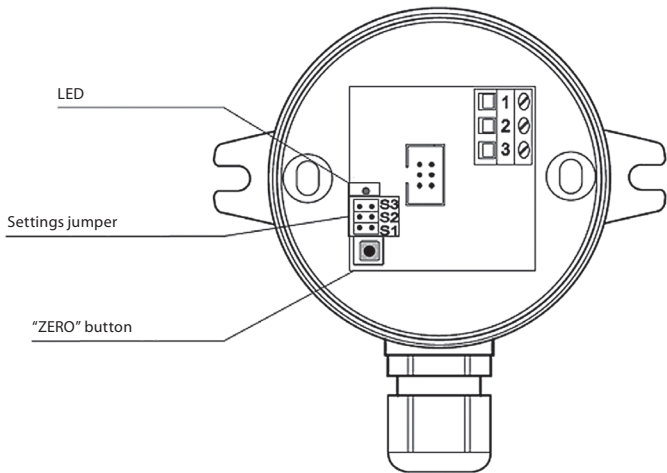

Fig. 4a. P2500 pressure sensor
5. When the operating unit air flow will reach nominal value (maximum air flow during operation of the unit), voltage (DC) between contacts No. 2 and No. 3 of the pressure sensors (see Fig. 4a) must be measured by digital multimeter. The voltage must be in range of 3..9V (recommended – 6V). If voltage is out of range other pressure range must be chosen with jumpers.